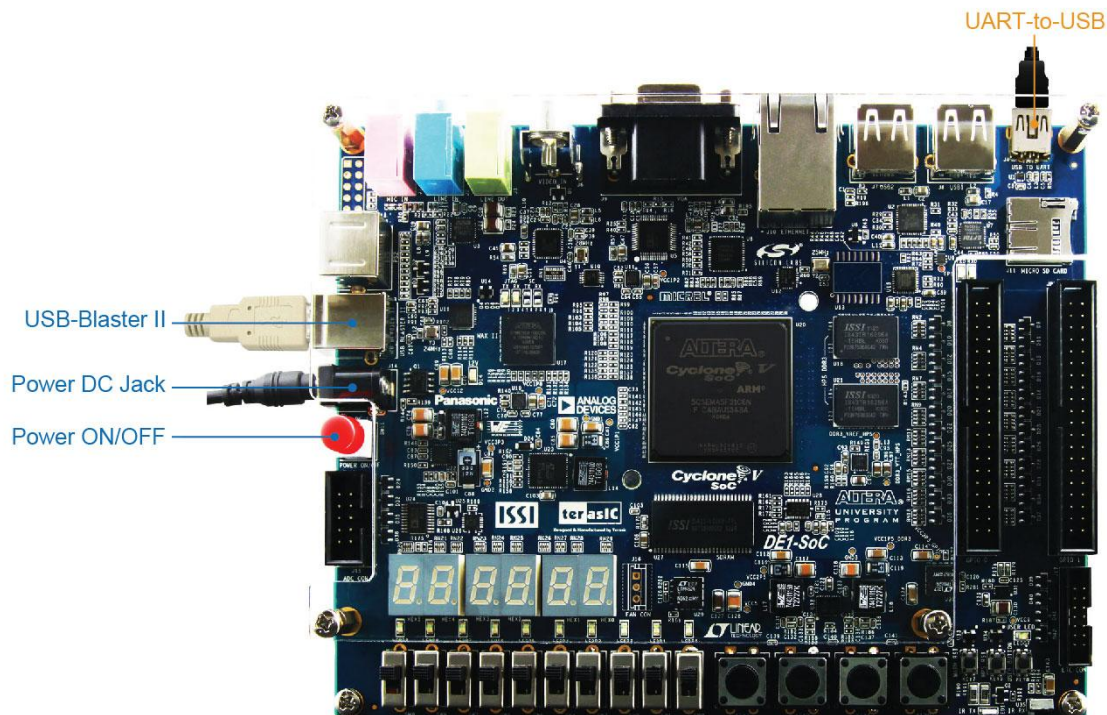

Figure 3-2 USB and Power Cables
Cable connections are shown in **Figure 3-2** as below:
2. Connect your computer to the development board by plugging the USB cable into the USB connector (J13) of DE1-SoC (connection shown in Figure 3-2)
1. Connect your computer to the development board by plugging the USB cable into the micro USB connector (J4) of DE1-SoC (connection shown in Figure 3-2)